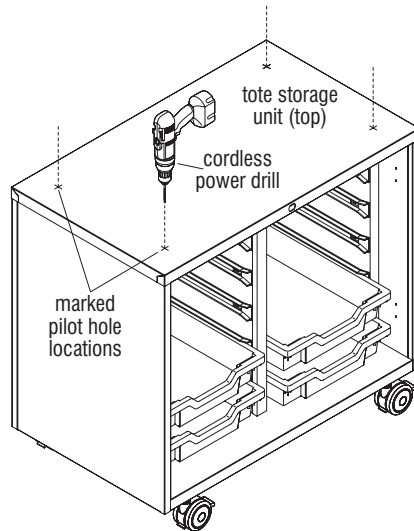

Figure 3
5. From the top of the unit, drill a $\frac{1}{4}$ " diameter hole at each marked location. When all appropriate mounting holes have been drilled, remove debris from storage unit (Figure 3).